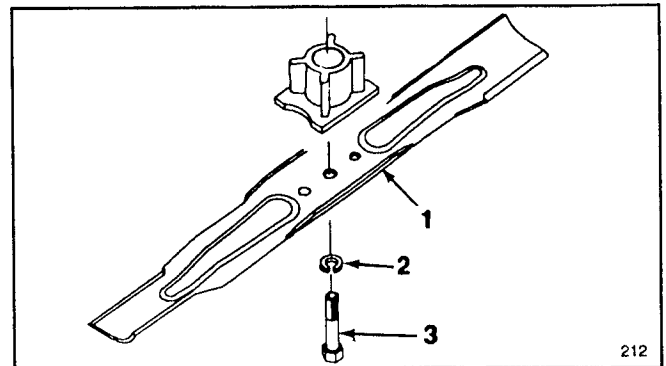

Figure 19
5. **REMOVING BLADE**—Grasp end of blade using a rag or thickly padded glove. Remove blade bolt, lockwasher and blade (Fig. 19).